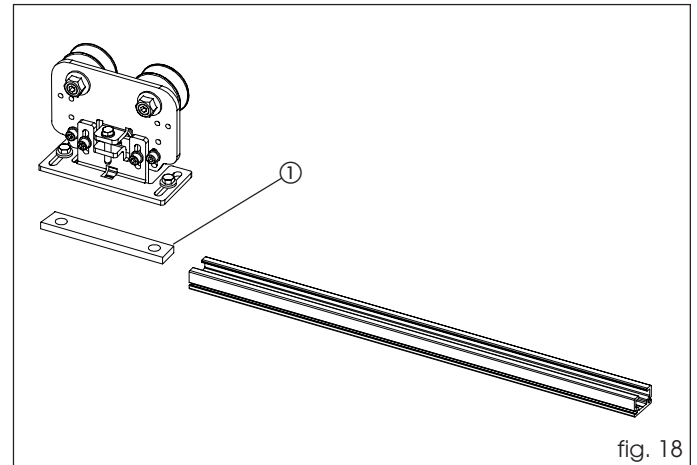

fig. 18
On the 940 automated systems, replace the carriage plate with the supplied one (fig. 18 ref. ①).